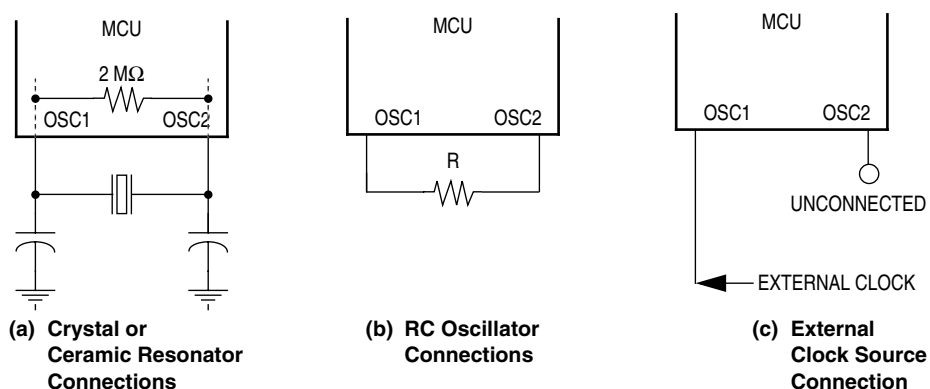

Figure 1-3. EPO Oscillator Connections
1. A crystal as shown in Figure 1-3 \(a\)
2. A ceramic resonator as shown in Figure 1-3 \(a\)
3. An external resistor as shown in Figure 1-3 \(b\)
4. An external clock signal as shown in Figure 1-3 \(c\)
The circuit in **Figure 1-3 (a)** shows a typical oscillator circuit for an AT-cut, parallel resonant crystal. The crystal manufacturer's recommendations should be followed, as the crystal parameters determine the external component values required to provide maximum stability and reliable startup. The load capacitance values used in the oscillator circuit design should include all stray capacitances. The crystal and components should be mounted as close as possible to the pins for startup stabilization and to minimize output distortion. An internal startup resistor of approximately $2\text{ M}\Omega$ can be provided by the shunt resistor mask option between OSC1 and OSC2 for the crystal type oscillator. The crystal configuration is enabled by choosing the crystal selection in the oscillator connections mask option.
In cost-sensitive applications, a ceramic resonator can be used in place of the crystal. The circuit in **Figure 1-3 (a)** can be used for a ceramic resonator. The resonator manufacturer's recommendations should be followed, as the resonator parameters determine the external component values required for maximum stability and reliable starting. The load capacitance values used in the oscillator circuit design should include all stray capacitances. The ceramic resonator and components should be mounted as close as possible to the pins for startup stabilization and to minimize output distortion. An internal startup resistor of approximately 2 M Ω can be provided by the shunt resistor mask option between OSC1 and OSC2 for the ceramic resonator type oscillator. The ceramic resonator configuration is enabled by choosing the crystal selection in the connections oscillator mask option.
The lowest cost oscillator is the RC oscillator configuration where a resistor is connected between the two oscillator pins as shown in **Figure 1-3 (b)**. The internal startup resistor of approximately 2 M Ω is not recommended between OSC1 and OSC2 for the RC-type oscillator.
An external clock from another CMOS-compatible device can be connected to the OSC1 input, with the OSC2 input not connected, as shown in **Figure 1-3 (c)**. This configuration is possible regardless of whether the crystal/ceramic resonator or RC oscillator configuration is used.